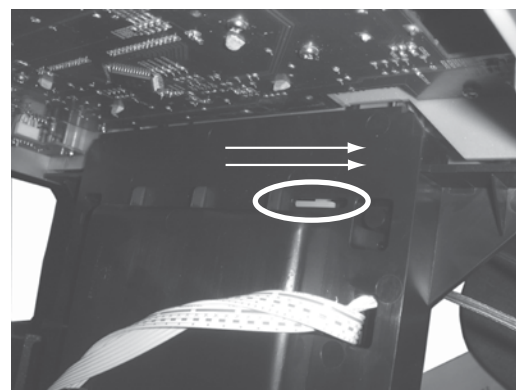

Figure 5
- 4) Push the gear slowly towards the front as shown in figure 5 until the CDC tray starts to move out of the Front Cabinet. The CDC tray is now disengaged and can be pulled out completely.